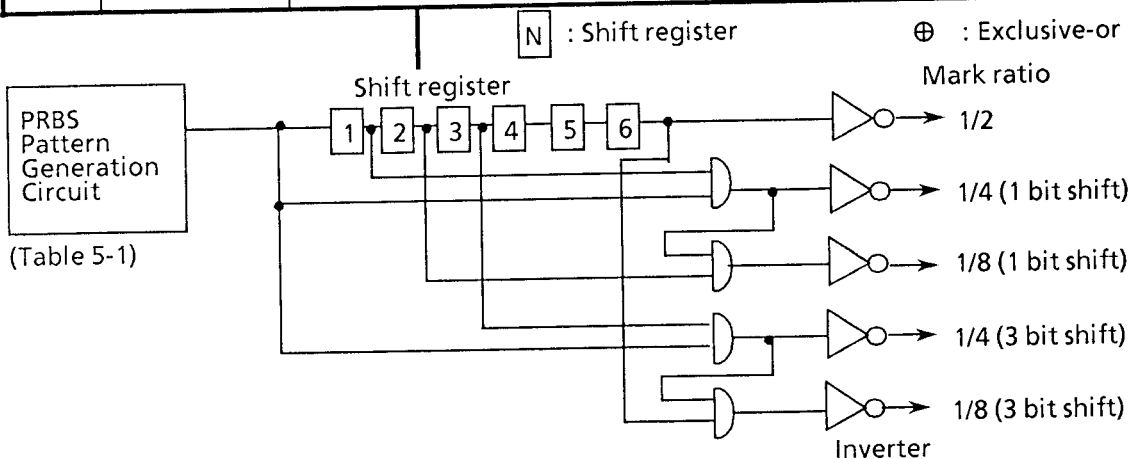

Fig. 5-5 Mark Ratio 1/4, 1/8 Pattern Generator
Select the number of AND bits shifted at mark ratios of 1/8, 1/4, 7/8, and 3/4. 1 bit or 3 bits can be selected via the rear panel FUNCTION switch 1 (55). (For details, see Fig. 5-5.)